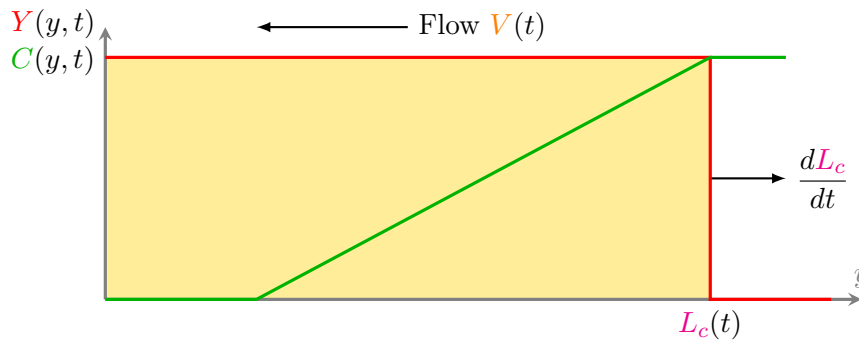

FIGURE 3 – Sketch of the problem used to define the physical quantities of the model. Flow is leftwards and the clog grows rightwards.
The aim of this problem is to model the clog growth with time. We consider a 1D model in the y direction. Figure 3 shows a sketch of the model. $Y(y, t)$ represents the yeast concentration, simply defined as a Heaviside function (in the clog the yeast concentration is fixed at Y_{max} , outside, it is fixed at 0). $L_c(t)$ is the clog’s length. $V(t) = \langle v \rangle$ is the superficial average of the velocity, with v the local value of the velocity of the fluid (α -phase) in the clog. $C(y, t) = \langle C_{loc} \rangle^\alpha$ is the intrinsic average of the nutrient concentration in the α -phase, with C_{loc} the local value of the nutrient concentration.
- 1 pt 3. By observing the results of Figure 3 of the article, what first conclusion can you propose about the influence of polydispersivity on permeability? Justify your answer.